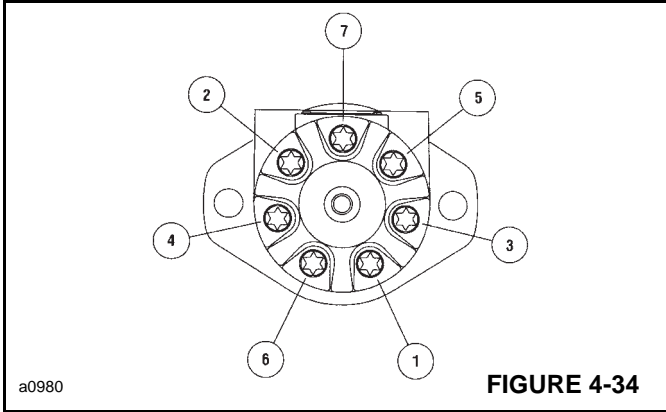

FIGURE 4-34
- 18. Rotate gerotor (16) to line up with bolt holes. Be careful not to disengage star from drive or disturb the gerotor seal.
- 19. Install seal (13) in end cap (17). Carefully place the end cap on gerotor (16).
- 20. Install capscrews (19) and seal washers (18) in end cap (17). Tighten the capscrews to 7.4 Nm (40 lb-in). Make sure the seal washers are properly seated. Then, tighten the capscrews to a torque of 27-29 Nm (235-250 lb-in) in the sequence shown in Figure 4-34.